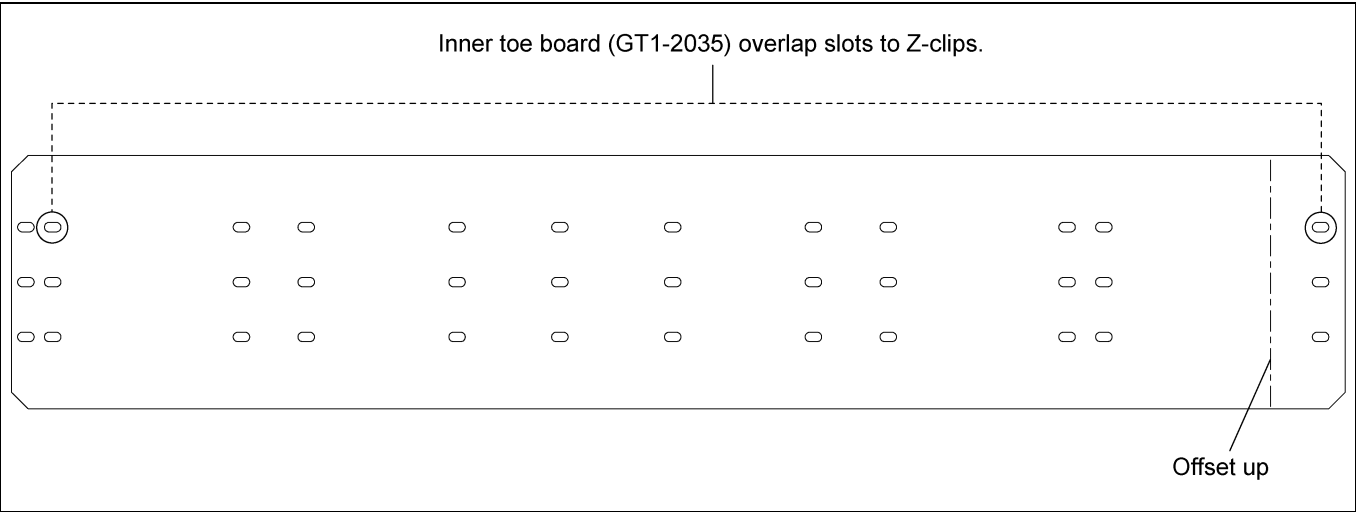

Figure 6L 24' Inner Toe Board (GT1-2035)
- 3. Inner toe board is arranged with overlap slots on each side. Install 24' offset and roof hatch inner toe boards (GT1-2035) to corresponding slots as shown in Figure 6L.